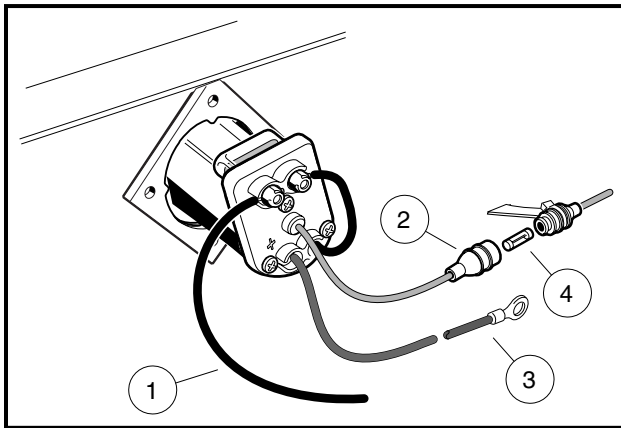

Figure 4-5 PowerDrive Charger Receptacle
9. Remove the lock nut that connects the black wire (1) to the charger receptacle (**Figure 4-5, Page 4-5**).
10. Disconnect the yellow fuse holder (2) from the wire harness.
11. Remove the 10-gauge red wire (3) from the large solenoid post.
6. Tighten the nut securing the 10-gauge black wire (1) to the charger receptacle to 23 in-lb (2.6 N·m) (**Figure 4-5, Page 4-5**).
8. Remove the lock nut that connects the black wire (1) to the charger receptacle (**Figure 4-5, Page 4-5**).
9. Disconnect the yellow fuse holder (2) from the wire harness.
10. Remove the 10-gauge red wire (3) from the positive post of battery no. 1.